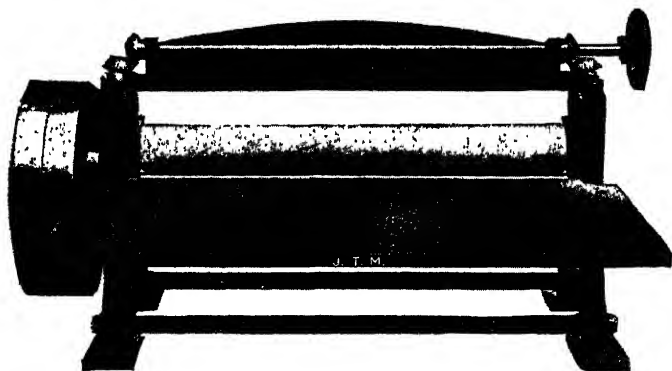

FIG. 40. "MARSHALL" CASE-STRAIGHTENING MACHINE.
*Case Straightening.* Cases which become warped should be straightened before they are blocked. The blocking processes also may cause warping, and the cases should then be straightened again before they are passed to the casing-in machine. When automatic machines feed from a hopper, the cases must be perfectly straight or have a slight bend in the right direction. They should be passed through the rubber rollers of a machine such as the "Marshall" Case-straightening Machine (Fig. 40). By adjustment of the top roller, the cases can be delivered perfectly flat or with a slight bend in the direction required.